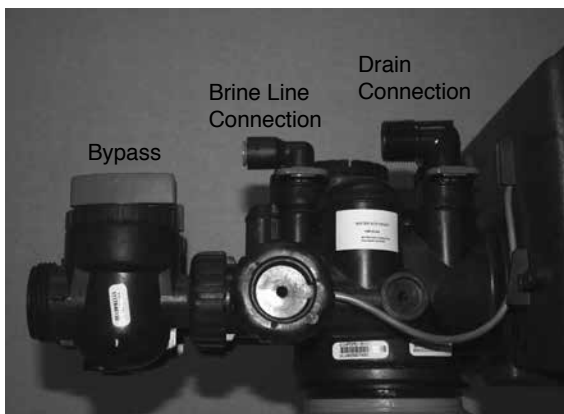

Figure 6a
5. Some contractors make drain line connection using 5/8" polytube (See figure 6a) or a 3/4" female adapter. If soldering, joints near the drain must be done prior to connecting the drain line flow control fitting. Leave at least 6" between the drain line control fitting and solder joints when soldering pipes that are connected on the drain line control fitting. Failure to do this could cause interior damage to the drain line flow control fitting.
7. Connect the brine line found in the brine tank to the brine connection on the control valve. The control valve has a standard refill elbow to which a 3/8" flexible tube can be connected, see figure 6a. (An optional elbow can be ordered which accommodates a 1/2" flexible tube for a high regenerant draw rate situation). Both elbows use the same refill flow control and retainer. Make sure the floor is clean beneath the salt tank and that it is level and smooth.